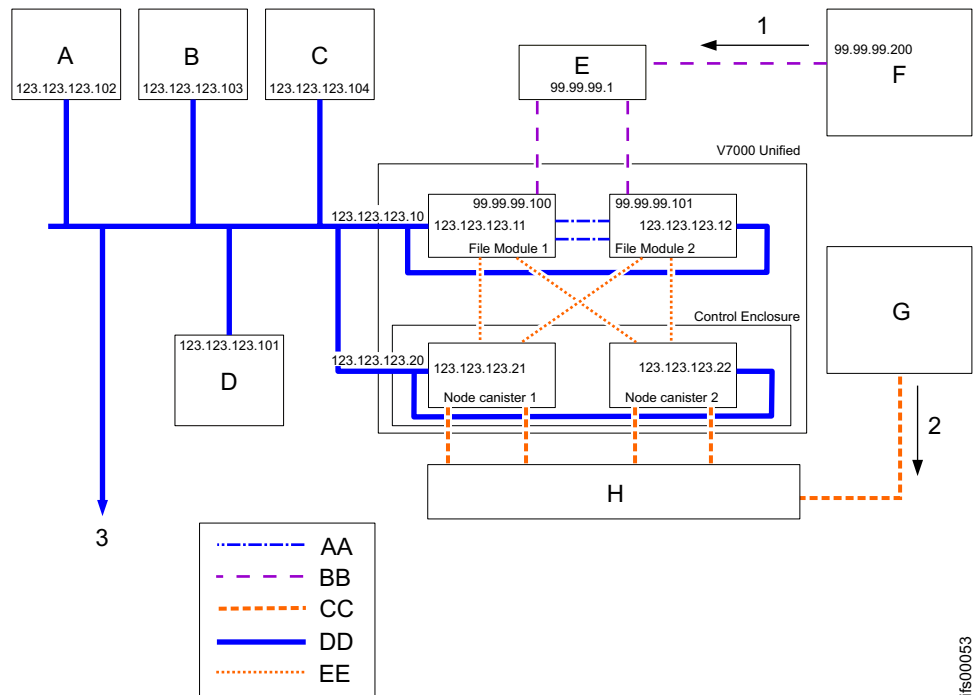

Figure 11. Examples of the IP addresses and network services needed for the system. The expansion enclosures are not shown.
**Note:** The example addresses in this table match the ones given on Figure 11 on page 13.